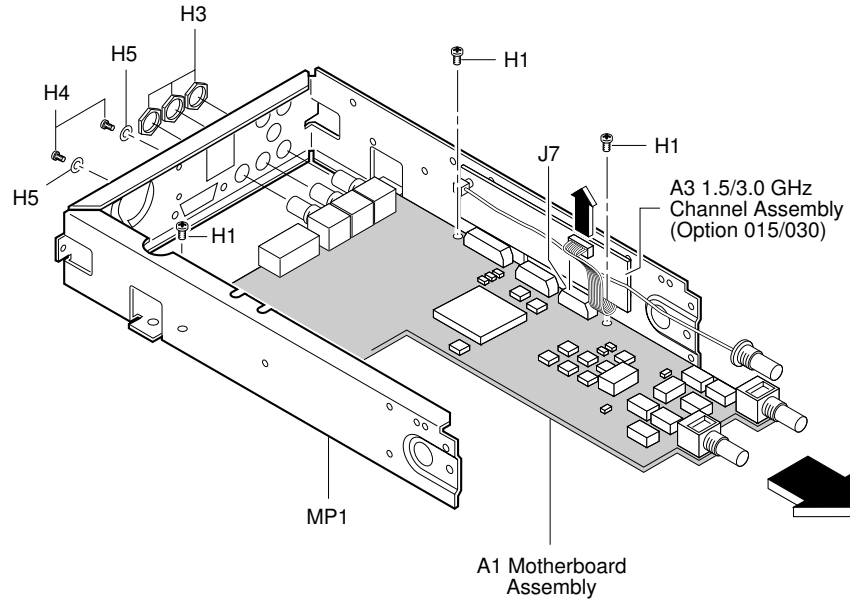

Figure 3-6. A1 Motherboard Assembly Removal
4 If the Counter contains Option 015/030/050/124 1.5/3.0/5.0/12.4 GHz Channel, disconnect the optional channel’s flat-ribbon cable from J7 on A1 Motherboard Assembly as shown in Figure 3-6.
7 Remove the two hex screws (H4), shown in Figure 3-6, on the rear-panel GPIB connector using the 7-mm spin tight.
- 8** Remove the BNC nuts (H3), shown in Figure 3-6, from the rear of the chassis using the 14-mm deep-socket spin tight (Opt 015/030 only). Remove knurled nut for Option 050.
- 9** Remove the three screws (H1) in A1 Motherboard Assembly as shown in Figure 3-6.